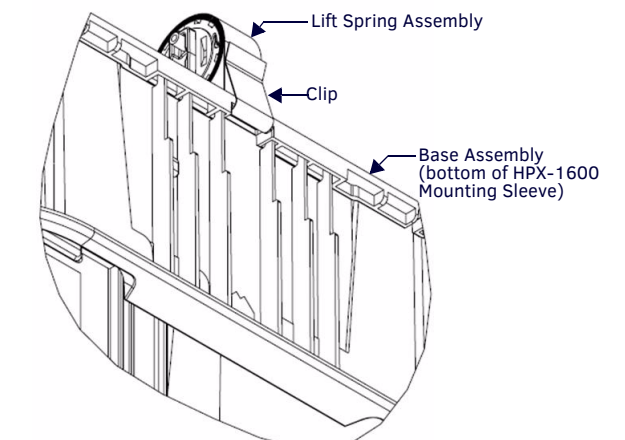

FIG. 9 LIFT SPRING ASSEMBLY CLIPPED TO MAIN SLEEVE
- Ensure the lift spring assembly is oriented properly (FIG. 9).